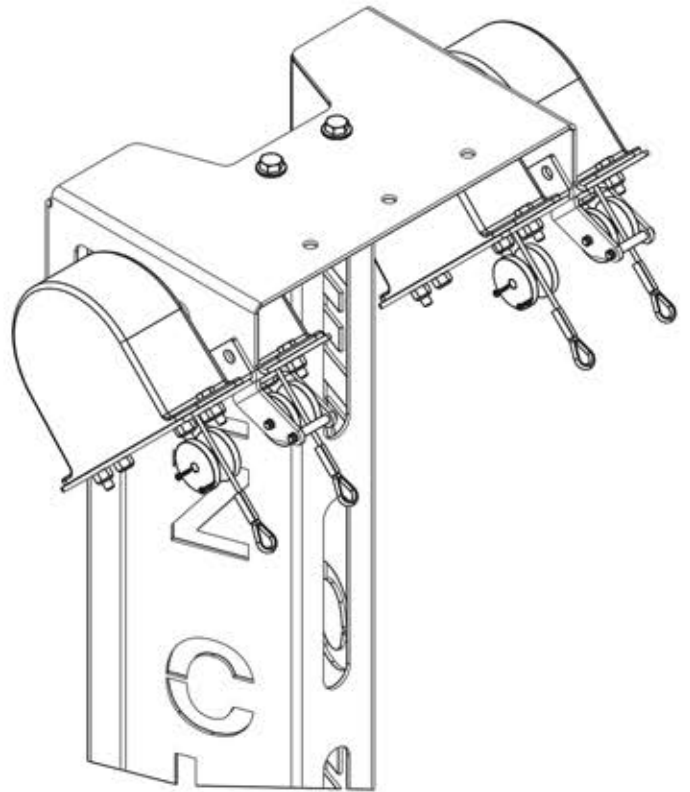

Figure 3
- 10) Locate the EZ Claw Tensioner(s) (sold separately) and install on the universal head mount (see figure 3), utilizing mounting hardware supplied with the tensioner. Ensure the tensioners are mounted so the cable extends from the top, guiding over the stainless steel guide roller as shown.